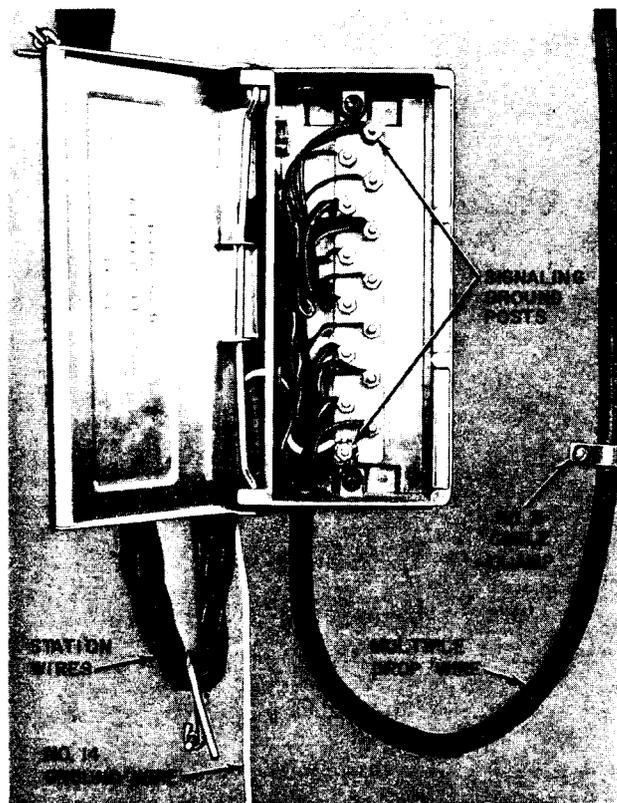

Fig. 2—Wiring of 104B Wire Terminal
2.02 The 104B wire terminal shown in Fig. 2 employs a mounting which is an aluminum die cast box, with a toggle-type cover similar to the cover on the 104A. It is equipped with a terminal block having facilities for connecting 6-pair multiple drop wire. Two binding posts, one at each end of the block, are strapped together internally and are used for signaling grounds.
- (1) Attach the 45A bracket to mounting surface with No. 14 RH galvanized wood screws or equivalent. Screws shall be of sufficient length to mount securely.
- (2) Set the terminal in position on the 45A bracket and secure with four self-tapping screws.
3.02 **104B:** The 104B wire terminal can be mounted either horizontally or vertically. Two mounting holes are provided. (Fig. 2). Use No. 14 RH galvanized screws of sufficient length to mount securely.